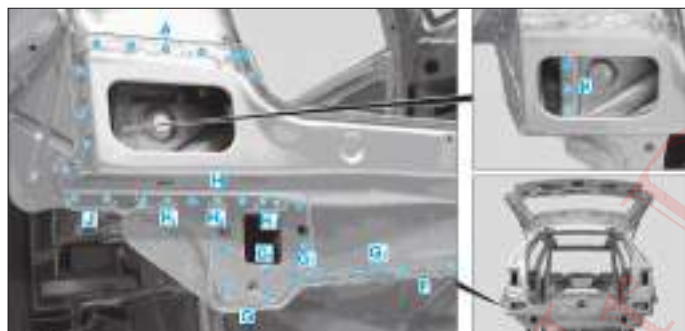

FIG. 113
- Fraiser les points de soudure (A), (F), (G), (G₁), (G₂), (G₃), (H), (H₁), (H₂), (H₃), (J) et (K) (Fig.113) et (Fig.114).